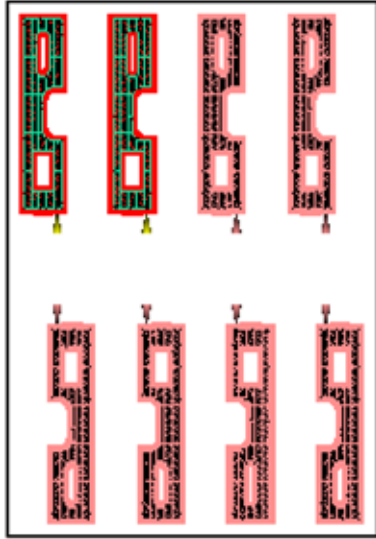

Figure 114: Selected entities
- Your selection should look like Figure 114.